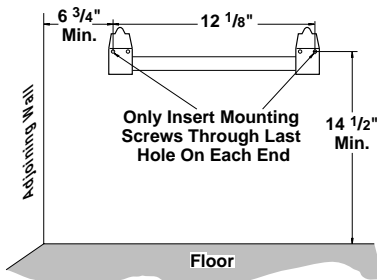

Figure 7 - Mounting Bracket Clearances
**⚠ WARNING: Maintain minimum clearances shown in Figure 7. If you can, provide greater clearances from floor and joining wall.**
2. Mark screw locations on wall (see Figure 7).